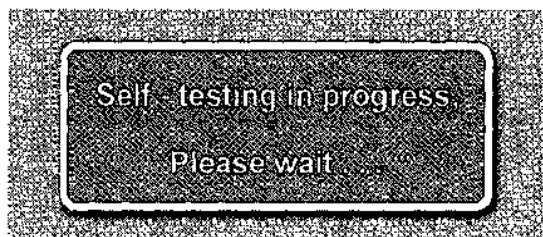

Figure 5. Panneau avant affichant l'écran d'autotest
- A self-test screen appears indicating that the system is performing a power-on self-test as shown in Figure 5. The software version is also shown at the bottom of the screen. If the self-test screen does not appear, cycle the power and try again. If the same problem continues, call Medtronic Advanced Energy Customer Service at 1-866-777-9400. Do not attempt to use the Generator until the problem has been resolved.